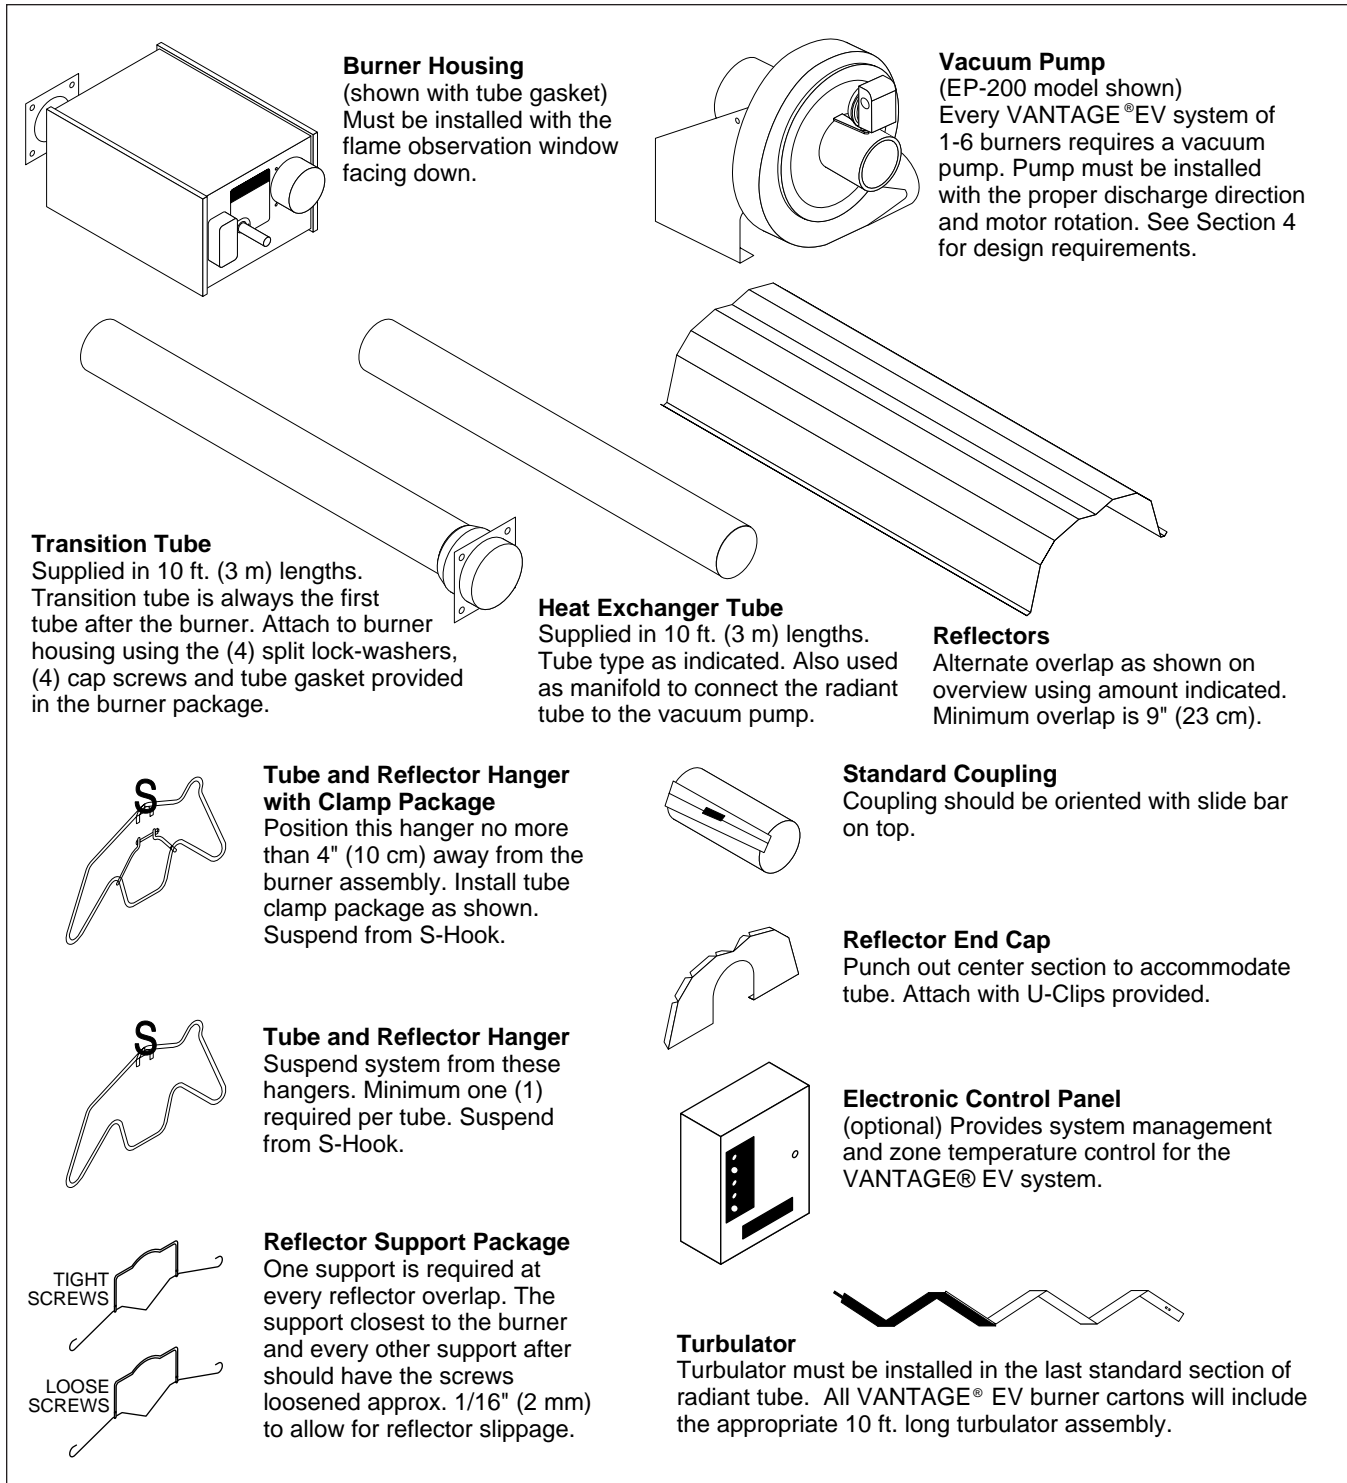
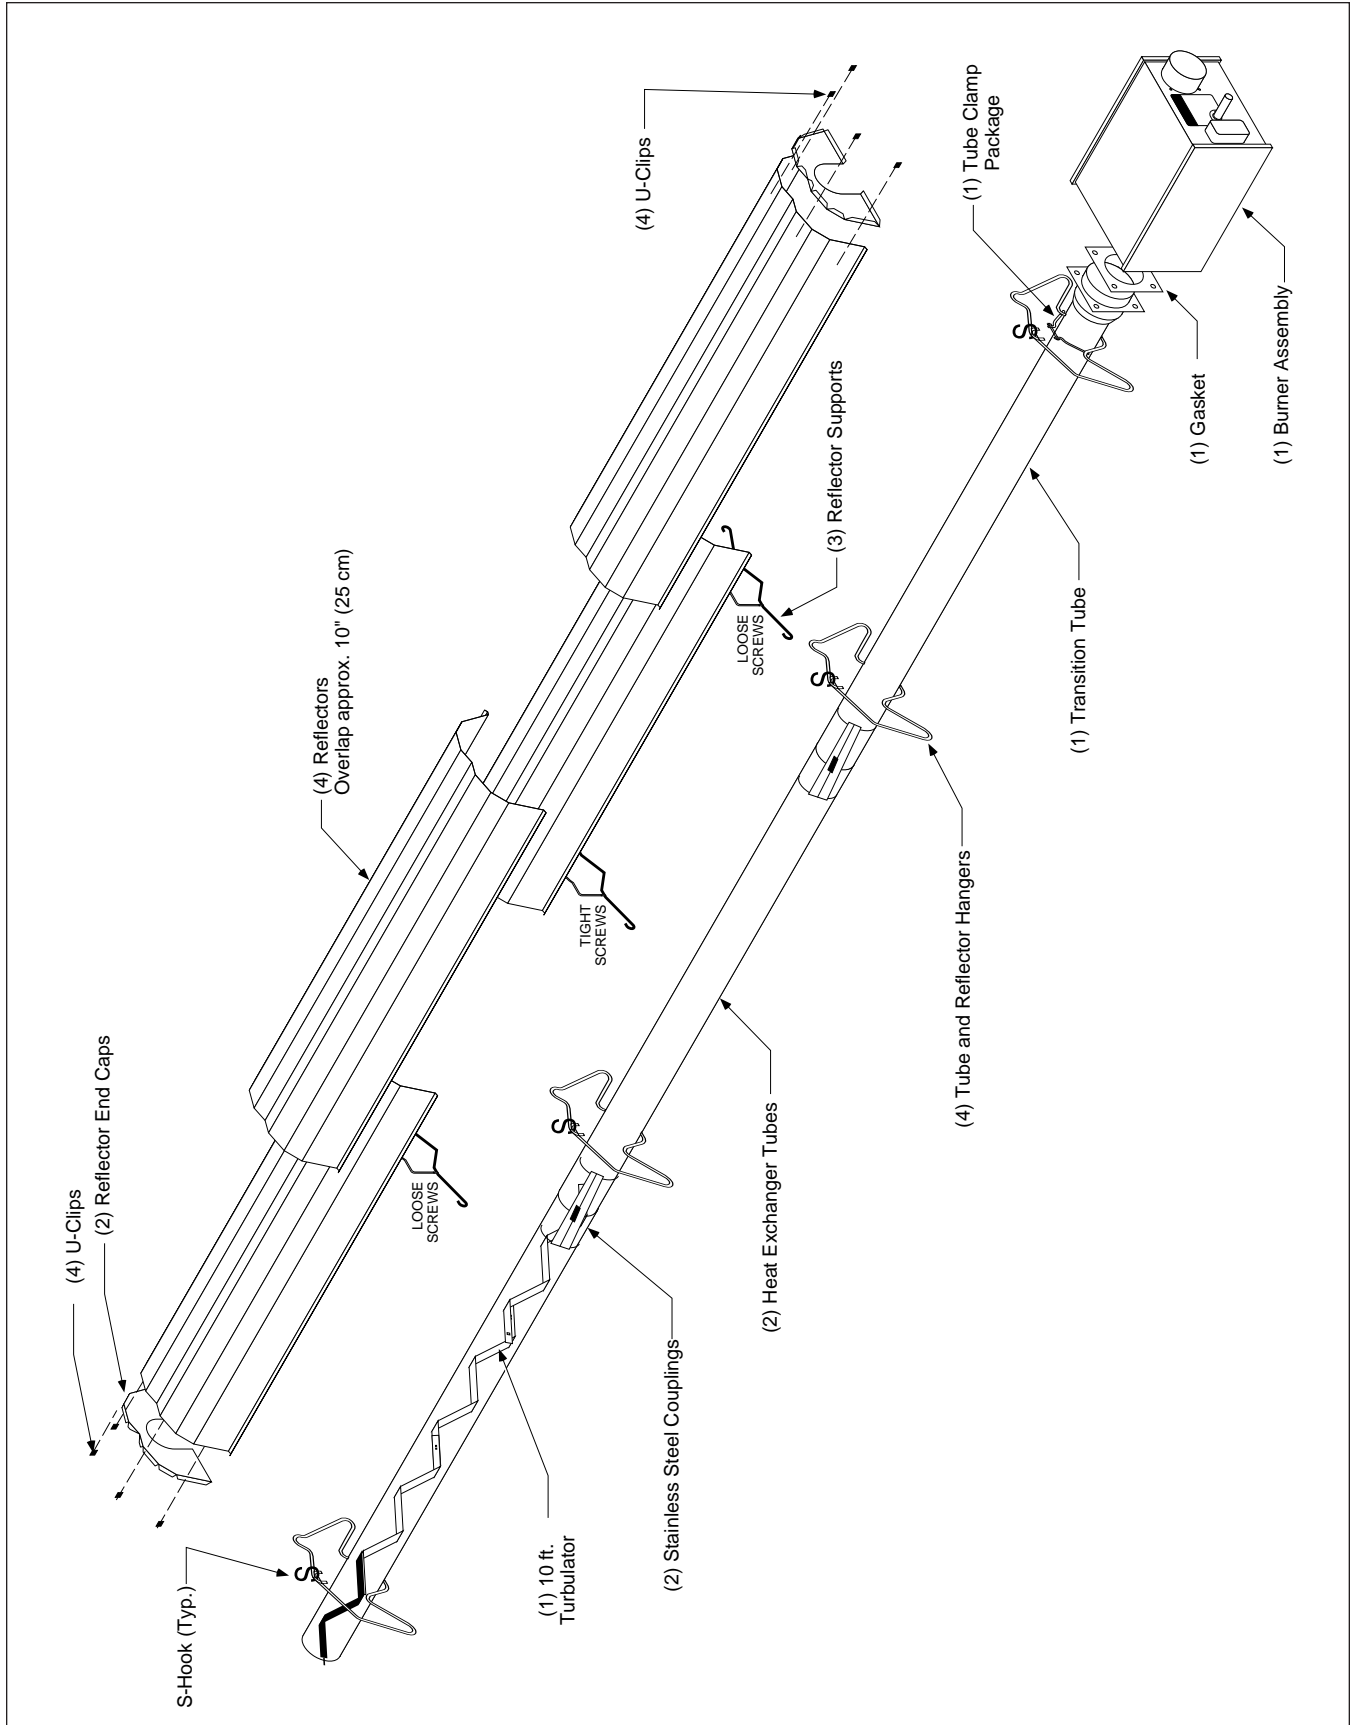

Figure 3. Assembly Overview
Figure 4. Assembly of 30 ft (9 m) Radiant Tube Section - EV-80
2) In some cases, the VANTAGE® EV system may be received with the accessory components non-cartoned, or packaged for a specific installation. In those cases, be sure to acquaint yourself with the individual components shown in Figure 3. Also follow carefully the appropriate diagram (Figures 4 thru 8) for the heater you ordered. These indicate the quantity and location of all necessary components.
Figures 4 through 8 show specific assembly details. Refer to Section 9 for venting assembly, Section 10 for gas piping assembly, and Section 11 for field wiring.
This section provides a general overview of component placement in a VANTAGE® EV system. The location of some components such as supports and couplings is crucial to proper installation. Assemble the system components as shown in Figures 4 thru 8.